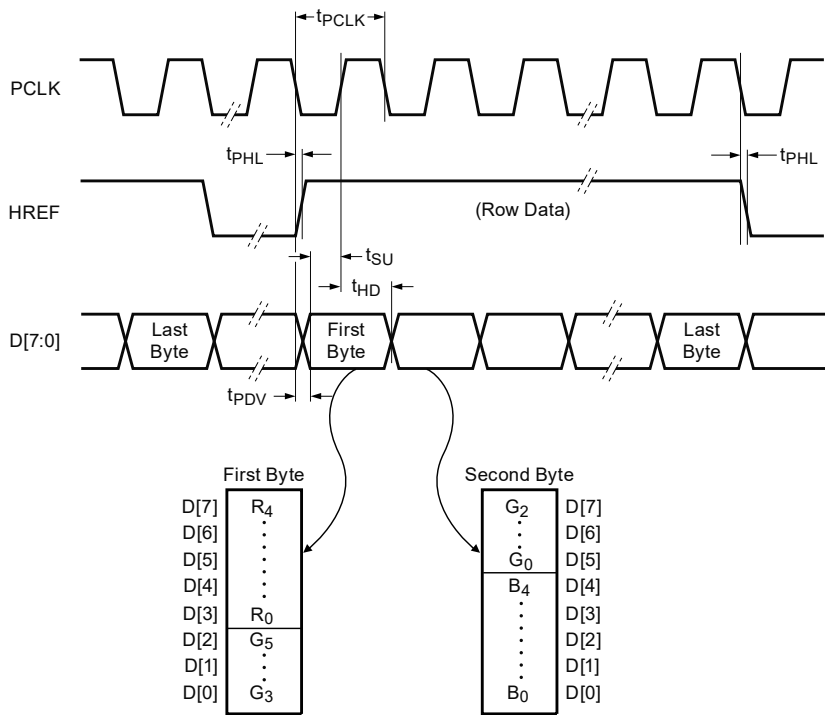

Figure 1. Camera module configuration
- The camera module must be configured as RGB565 mode with the timing diagram, as shown in Figure 1.